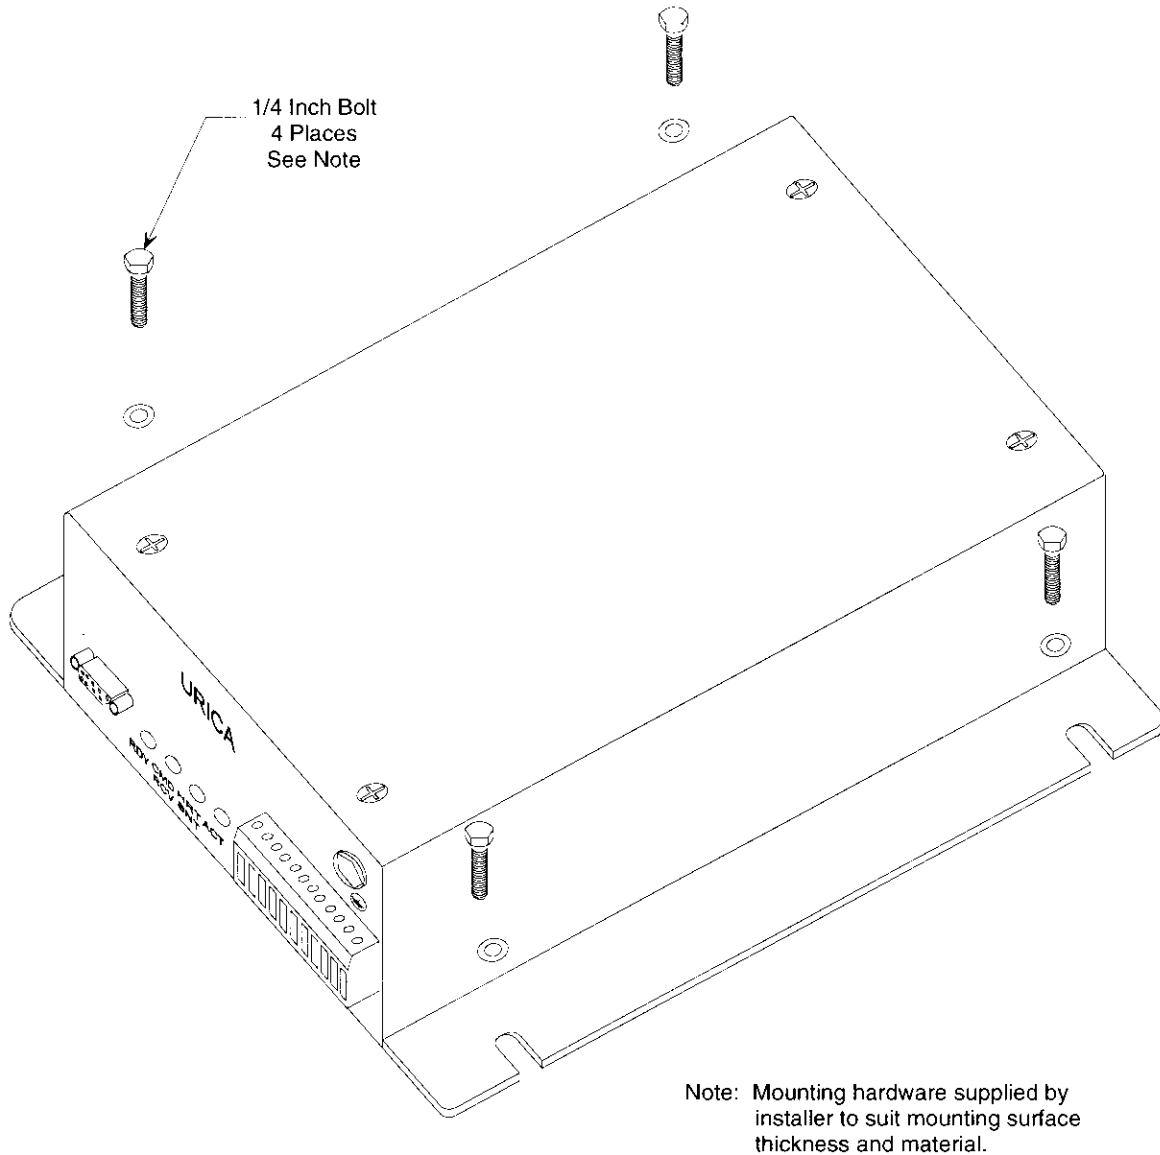

FIGURE 2-1 Mounting Diagram
- 1) Determine mounting hardware. See Figure 2-1 and Figure 6-1.